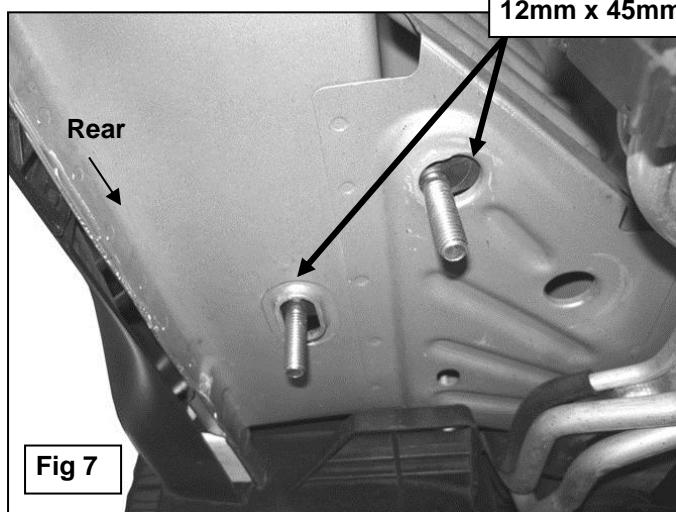

Fig 7
5. Move toward the rear of the vehicle and locate the round or oval hole centered in the bottom of the floor panel as described in **Step 2, (Figures 7 & 8)**.
- 07-09** vehicles are equipped with an oval hole in the center of the floor panel as described in **Step 2a**. Insert (1) 12mm x 45mm Bolt Plate into the oval hole in the center of the floor panel and turn 90-degees across the oval hole, (**Figure 7**).
6. Next, locate the large hole slightly in toward the center of the vehicle from the previously installed Bolt Plate. **NOTE:** Use the passenger side Rear Bracket to determine the correct mounting hole to use. Insert (1) 12mm x 45mm Bolt Plate into the factory hole, (**Figures 7 & 8**). **NOTE:** Do not center the Bolt Plate in the hole, the shorter end of the Bolt Plate should be pushed to one side of the factory hole in order to fully engage.